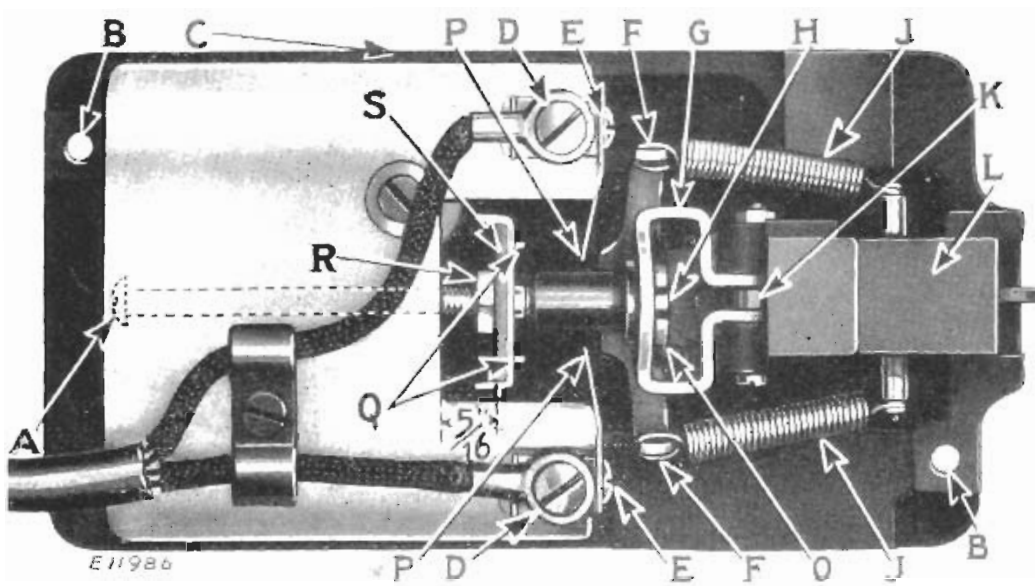
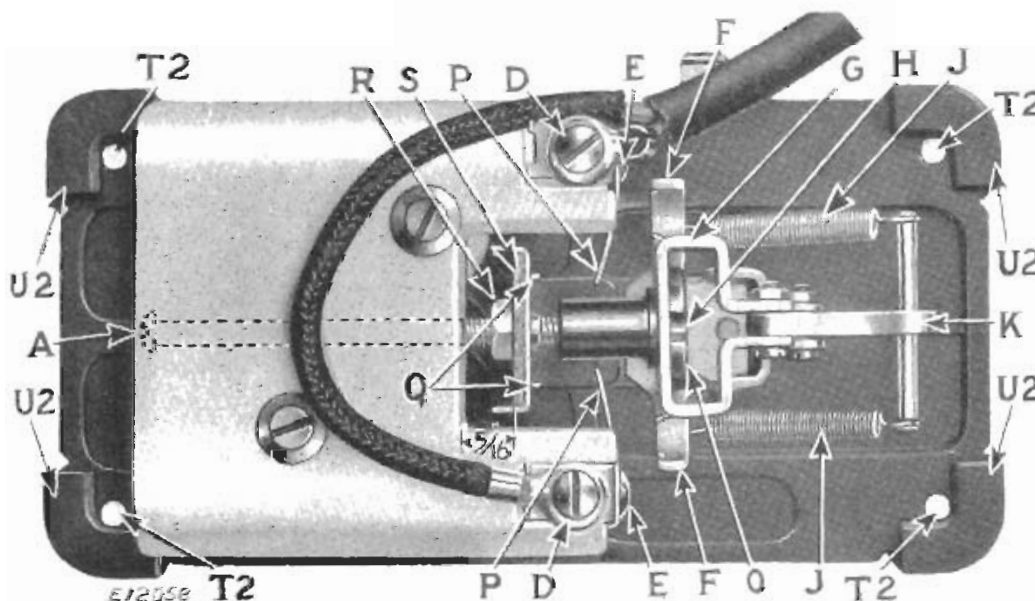
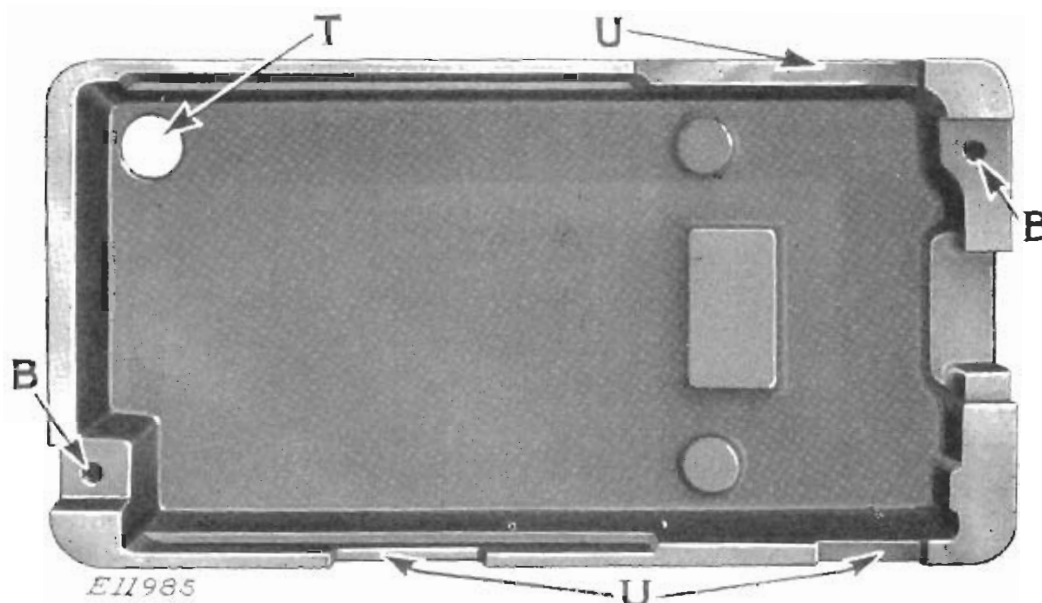
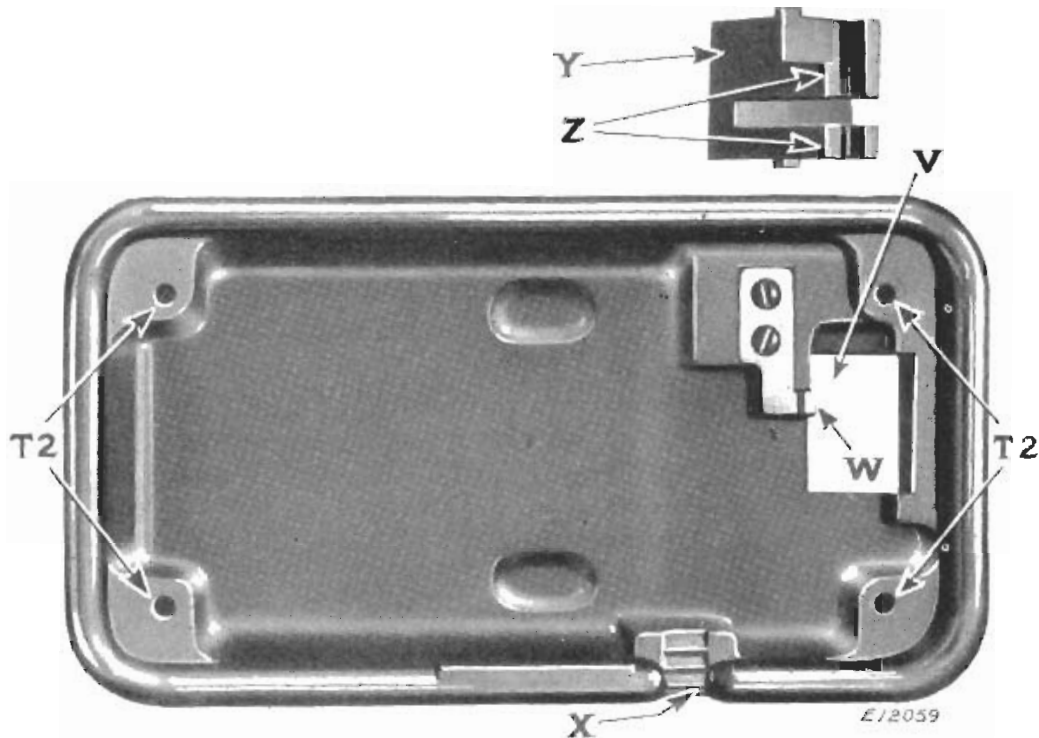

FIG. 26. BAKELITE TREADLE CONTROLLER—COVER REMOVED
FIG. 27. BAKELITE CONVERTIBLE FOOT AND KNEE CONTROLLER
FIG. 28. INSIDE VIEW OF BAKELITE TREADLE CONTROLLER COVER
FIG. 29. INSIDE VIEW OF COVER OF BAKELITE CONVERTIBLE FOOT AND KNEE CONTROLLER SHOWING PEDAL DISENGAGED FROM COVER
Treadle Controller. Remove the controller from the stand to which it is attached, and remove the controller leads from the cabinet. Remove the two screws which fasten the cover, Fig. 28, to the base, Fig. 26, at (B), and lift the cover from the base. Inspect the wires and connections at (D, Fig. 26).
Convertible Foot and Knee Controller. Remove the complete controller and leads from the cabinet. Remove the four screws which fasten the cover, Fig. 29, to the base, Fig. 27, at (T2). If, after removal of these four screws, the cover adheres tightly to the base, **do not attempt to pry it off, as such procedure would mar or break the cover or base or both.**
With the four fastening screws removed, hold the controller in the left hand and, with the right hand, press the pedal (Y, Fig. 29) all the way down. This will disengage the base from the cover. Inspect the wires and connections at (D, Fig. 27).
(See Fig. 26, showing the Bakelite Treadle Controller, or see Fig. 27, showing Bakelite Convertible Foot and Knee Controller.
(a). When the crank (K) is at the "off" position with its lower end resting upon the base of the spring bracket (F), the face of the Bakelite strip (S) should be $\frac{5}{16}$ inch from the flat face of the porcelain, as shown in Figs. 26 and 27. If this distance is not $\frac{5}{16}$ inch, release the insulated nut (O) from its seat by pushing on the end of the pull rod at (A) and turn the nut (O) until the correct adjustment is obtained. Be sure that the nut (O) seats in the yoke (G) and that the pin (H) of the yoke engages one of the four notches in the head of the nut (O).
(b). Pull back the moulded link (L, Fig. 26) as far as it will go, against the tension of the springs (J), for full speed position of the **treadle controller**.
Press down the crank (K, Fig. 27) as far as it will go, for full speed position of the **convertible foot and knee controller**.
treadle controller, Fig. 26, while the lower notches are for the loops of the springs (J) used in the convertible foot and knee controller, Fig. 27. Make sure that these springs (J) are properly attached, as shown in Figs. 26 and 27.
Replace the Cover—Treadle Controller. (See Fig. 28). Pass the controller leads through the opening (T) in the cover;
CAUTION. When inserting the two self-threading fastening screws at (B, Figs. 26 and 28), feel carefully with the screws to **insure that the threads on these screws coincide with the threads previously cut in the cover by the original insertion of these screws.**
Replace the Cover—Convertible Foot and Knee Controller. (See Fig. 29.) Probably the pedal (Y) became separated from the cover as the latter was removed from the controller base. Note that its replacement in the cover is not possible except in the correct manner, viz: Insert from the inside of the cover and with one of the two long projections (Z) against the metal guide (W).
See that the rubber pads (U2, Fig. 27) are firmly in place on each corner of the base, as shown in Fig. 27.